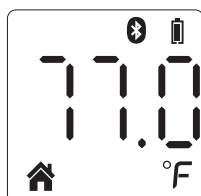

Figure 5
1. Press the *Test Button* to turn on the thermometer, press the *Mode Button* to switch to room mode, the thermometer will automatically measure the room temperature(See figure 5) .